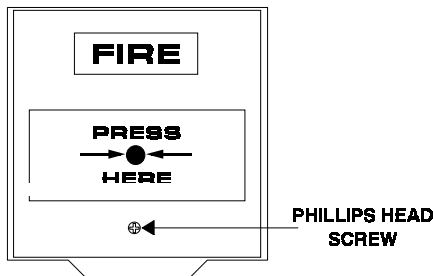

Figure 3. Phillips Screw Location
- 4) Remove the Phillips screw located on the front (see Figure 3).